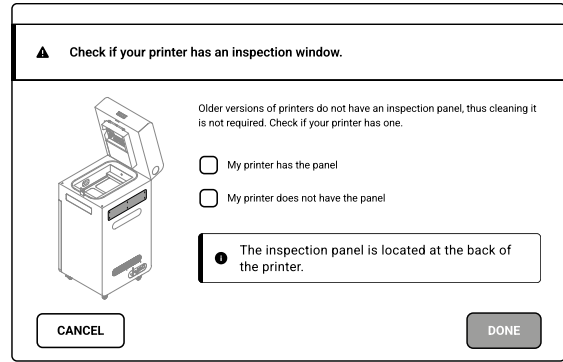
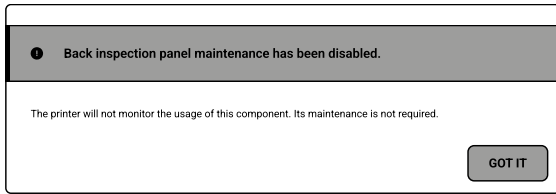

Fig. 13.86 Confirm if your printer is equipped with the back inspection panel.
Fig. 13.87 Message confirming that the back panel maintenance is permanently disabled.
3. If the panel is not present, tick the **MY PRINTER DOES NOT HAVE THE PANEL** checkbox and press **DONE** (fig. 13.86). This functionality will be permanently disabled, you will not see messages about it again (fig. 13.87).